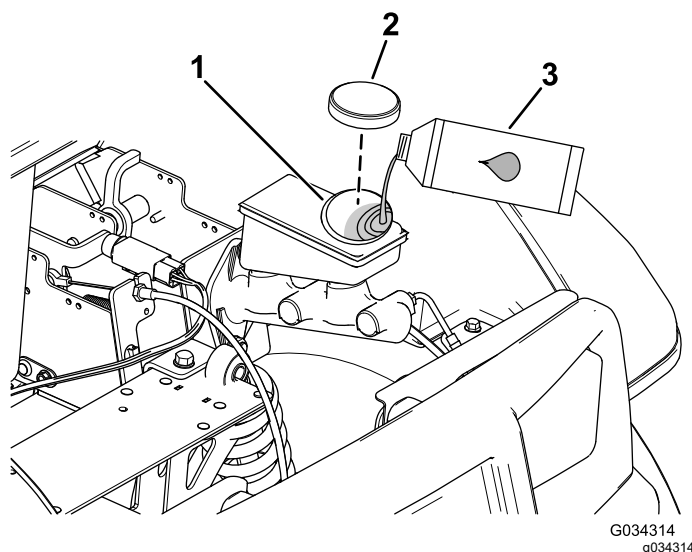

Figure 52
2. Raise the hood to gain access to the master-brake cylinder and reservoir (Figure 52).
- A. Clean the area around the reservoir cap and remove the cap (Figure 52).
- C. Install the reservoir cap (Figure 52).